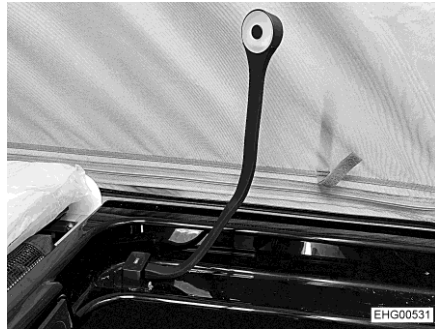
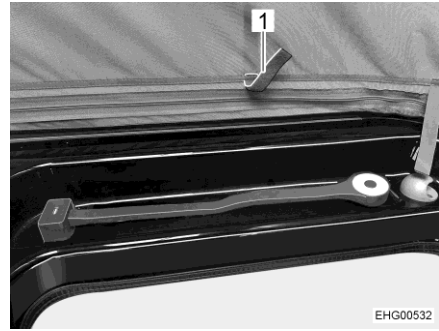

Fig. 76 Goose neck lamp, operating position
Fig. 77 Goose neck lamp, transport position
- Return goose neck lamp from operating position (Fig. 76) to transport position (Fig. 77).
- Pull in the canvas by the tabs (Fig. 77,1) provided for this purpose.